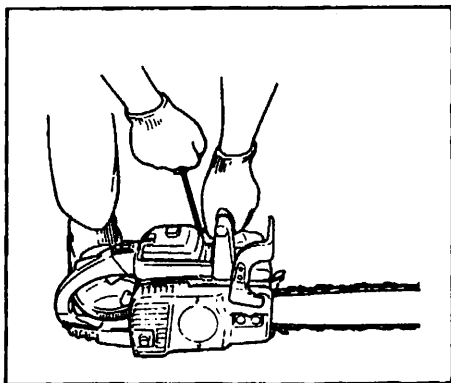

Fig. 10
5. Hold front handle securely with your thumb and fingers encircling front handle and pull the recoil starter (Fig.10)
6. Pull the handle until a compression is felt. Pull the recoil starter several times and, when an explosion is heard, return the choke control knob to the "OPEN" position. (Fig.10)